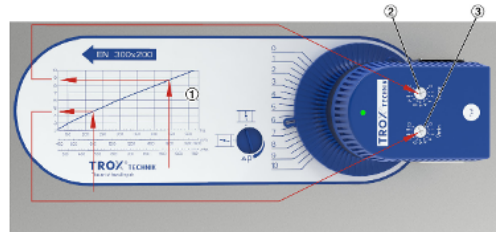

Fig. 16: Setting the volume flow rate
- ▶ Using the volume flow rate scale (Fig. 16/1), determine the setting value (1-10) for the desired volume flow rate (l/s, m³/h, or cfm).
- ▶ Set the desired value at the Vmin potentiometer (Fig. 16/3).
- ▶ Set the desired value at the Vmax potentiometer (Fig. 16/2).
Settings according to scale Fig. 16: